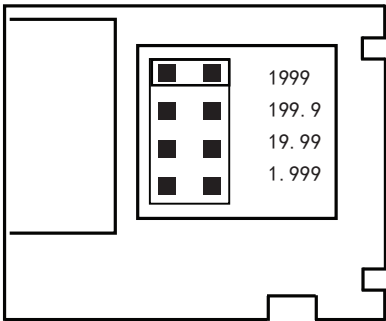

Figure 2
2.2. Decimal point setting (Figure 2)